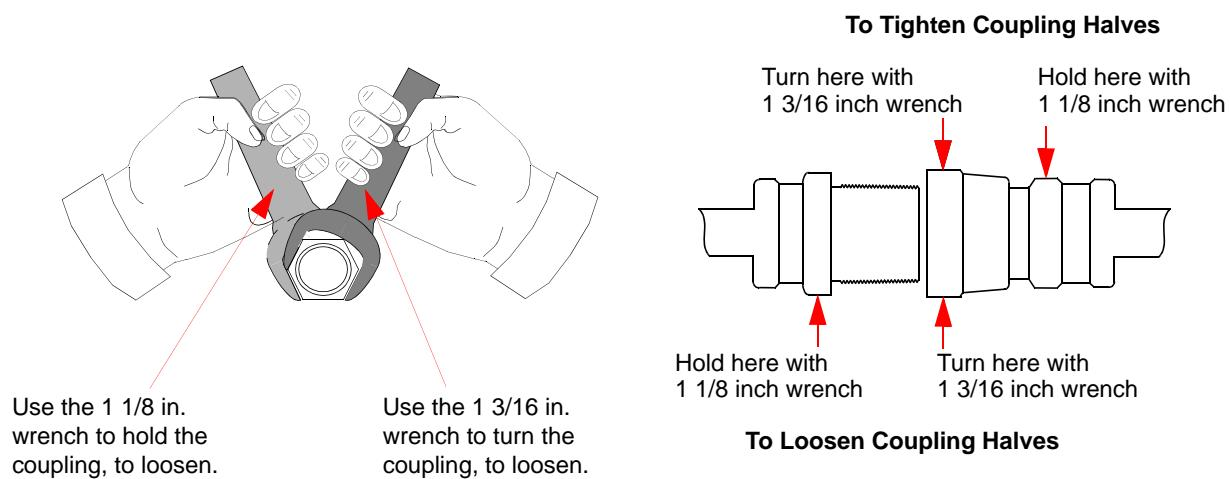

Figure 6-1: Disconnecting Self-Sealing Couplings
11. Using two wrenches as shown in Figure 6-1 on page 6-4 (a 1 3/16 in. wrench to turn the self-sealing coupling; a 1 1/8 in. wrench to hold the coupling stationary), connect the two self-sealing couplings quickly to minimize helium leakage.
12. Install the 8600 Compressor rear panel and secure the panel by inserting and tightening the seven (7) screws removed earlier in this procedure.